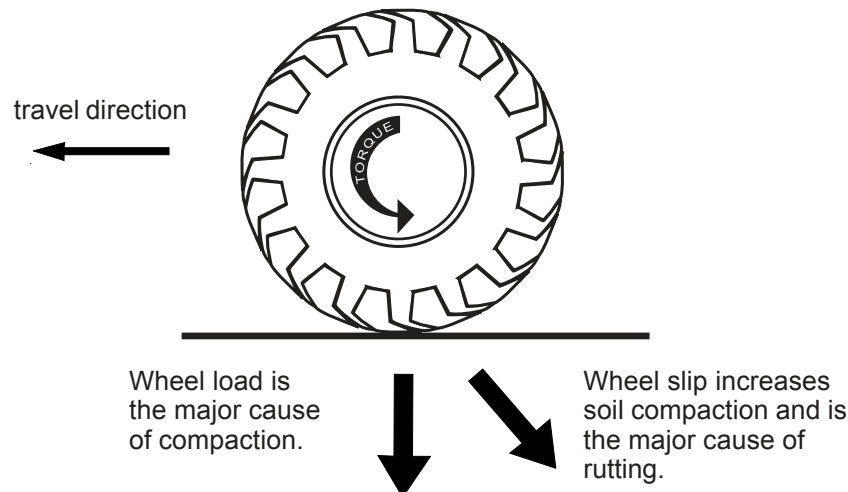

Figure 16. Wheel load and slip.
- Some slip is needed to engage soil strength for traction, but excessive slip increases compaction and rutting (**Figure 16**).